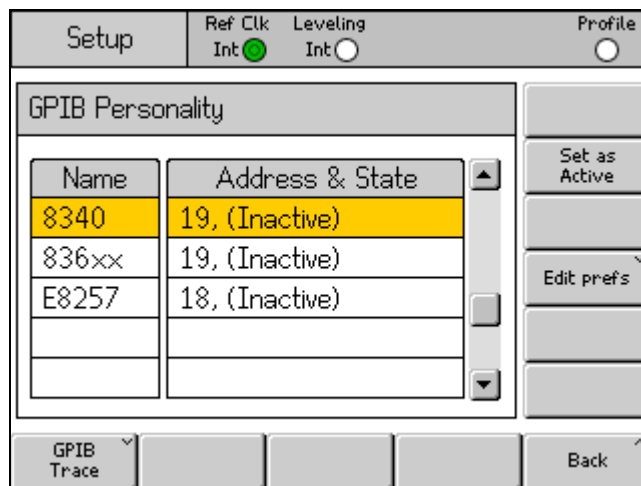

Figure 24. GPIB Personality Screen
3. Use the **↶** and **↷** to select the 8340 personality. See Figure 24.